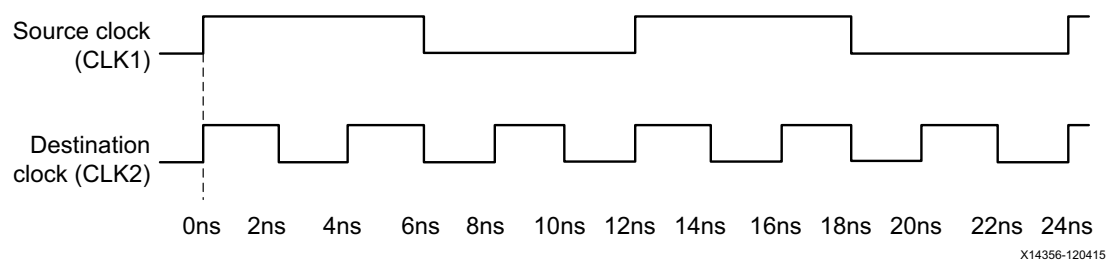

Figure 5-16: Multicycles Between SLOW-to-FAST Clocks
- A clock enable signal on the receiving registers allows a Multicycle constraint to be set between both clocks. See Figure 5-16.